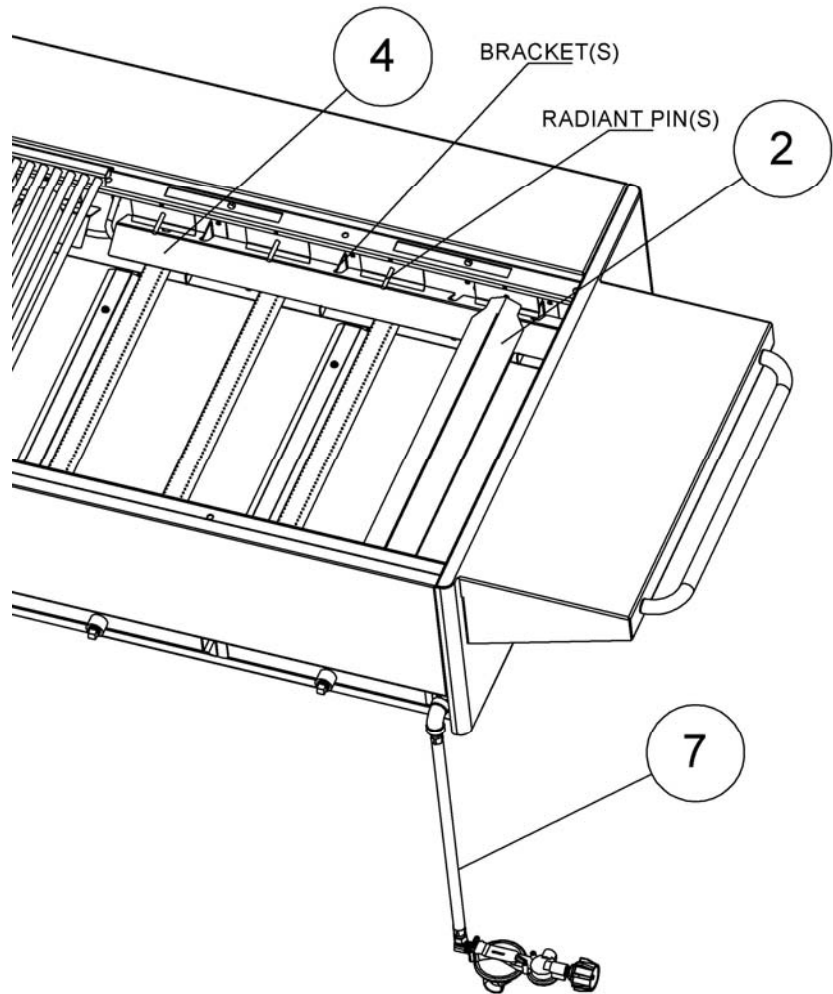

FIGURE 2
I. Place runner tube cover(s) (4) on the runner tube support bracket(s) to cover the runner tube(s), see figure 2. Slots in the runner tube cover(s) (4) will fit over the brackets and the igniter spark rod.
J. Place the radiants (2) on their front and rear support pins over each burner. M. Slide water tub(s) (9) into frame assembly (6).
K. Install the water tub(s) (5) by sliding them into the cabinet frame, they should rest on the floor of the assembly.
L. Place cooking grid(s) (1) onto frame assembly, the cooking grid supports are built into the frame assembly.